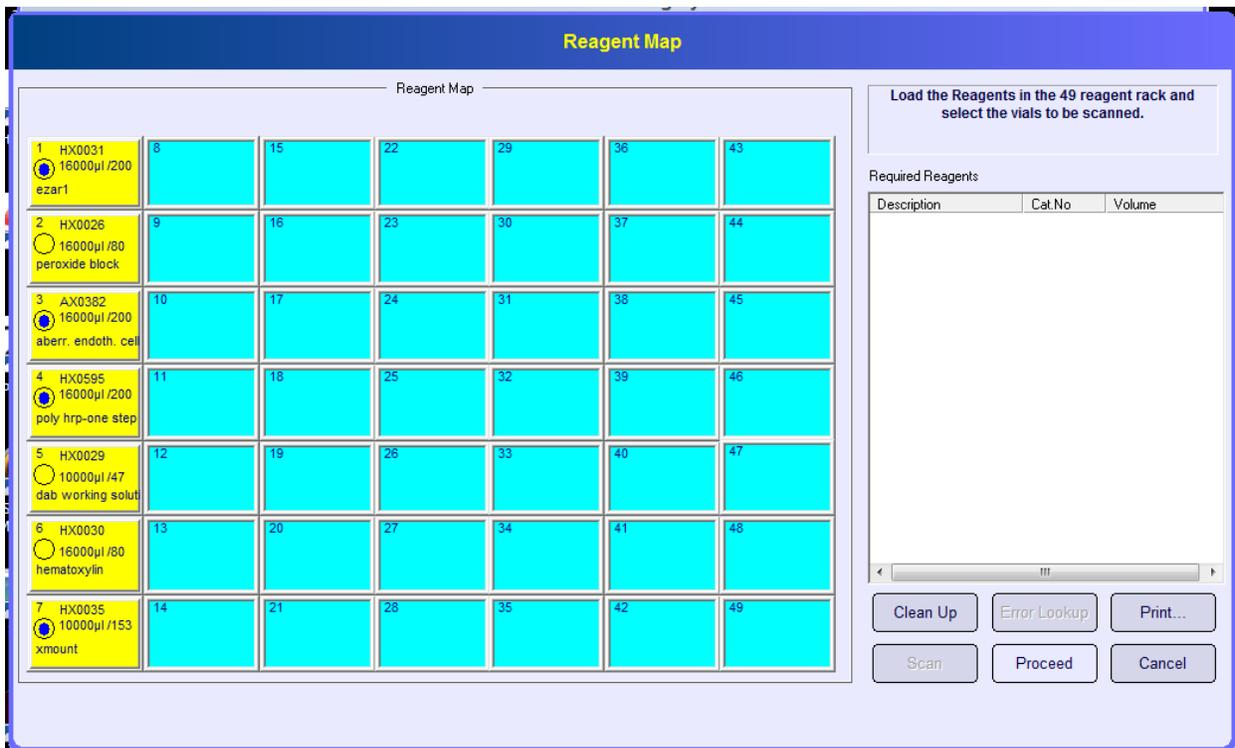

Figure 55: The Reagent Map Window
2. The **<Reagent Screen>** window (Figure 55) will appear. Insert the reagents to be used for the run and click **<Proceed>**.